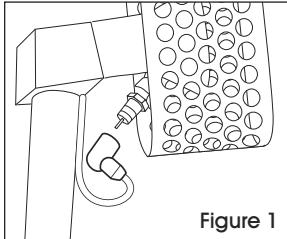

Figure 1
- First, detach the igniter connector from the spark plug at the front of the gun. (See Figure 1) Then unscrew the two Phillips screws on the cage to detach the head from the #975 heat gun.